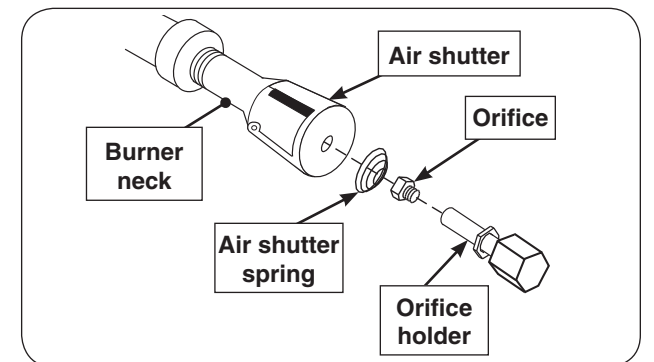

Fig. 26-3 Burner replacement diagram
2. Squeeze the collimator to detach the rear tab from the rear liner as shown in Fig. 26-3, A, and lift up the rear portion of the collimator.
3. Detach the collimator from the front collimator support and completely remove the collimator as shown in Fig. 26-3, B.
4. To re-install, position the air shutter spring and air shutter over the orifice holder fitting, between the burner and the heat shield, in the order and position shown in Fig. 26-3. Do for both burner necks.